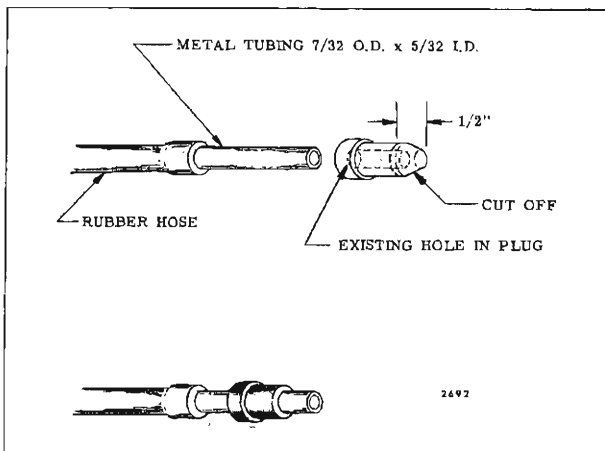

Fig. 13-70—Reservoir Filler Plug Adapter
**NOTE:** Figure 13-70 illustrates fabricated filler plug adapter.